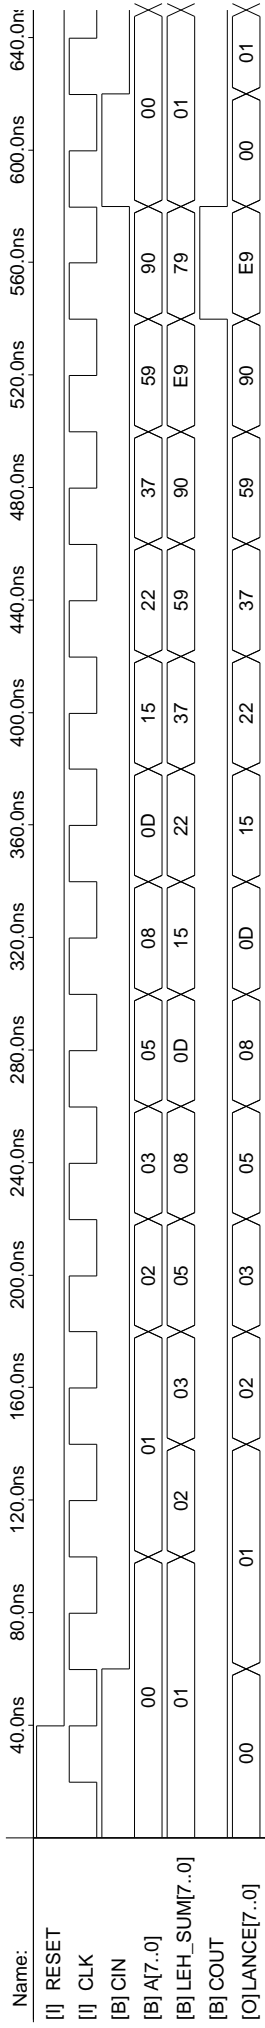

FIGURE 2
- Simulation waveforms showing the functional simulation of your Fibonacci sub-circuit, similar to Figure 2.